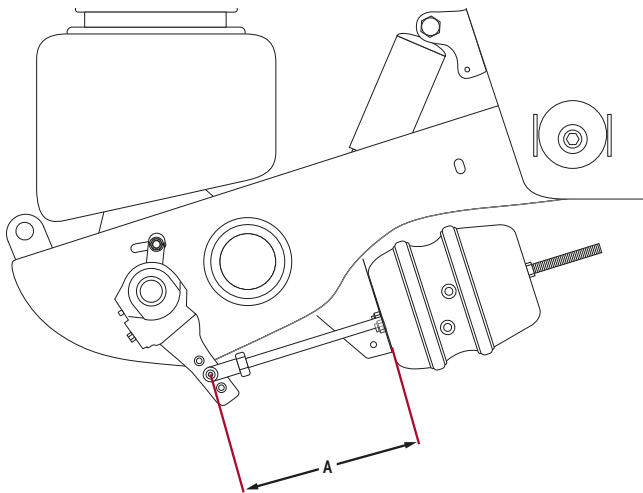

Figure 100: Brake Chamber Retracted Length = A
The distance measured from brake chamber to clevis pin (A) should be made with brake chamber fully retracted. This measurement is used when calculating brake Free Stroke and Applied Stroke. Refer Figure 100.